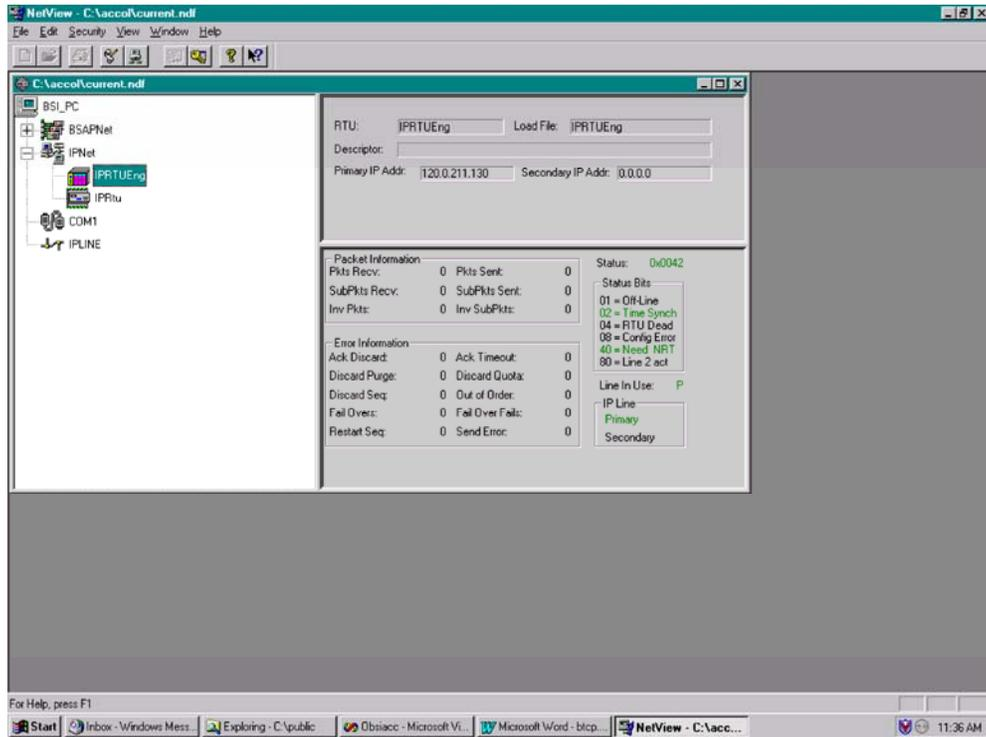

Figure 22 - NetView Startup Menu - Example with Multiple Networks
1. Start the OpenBSI NetView Program. A menu similar to Figure 22 will appear.